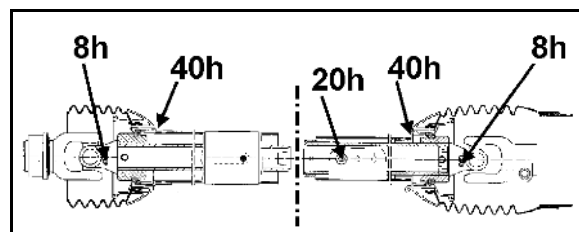

Fig. 71
- 6 screws of the weighing cell (Fig. 71/1)